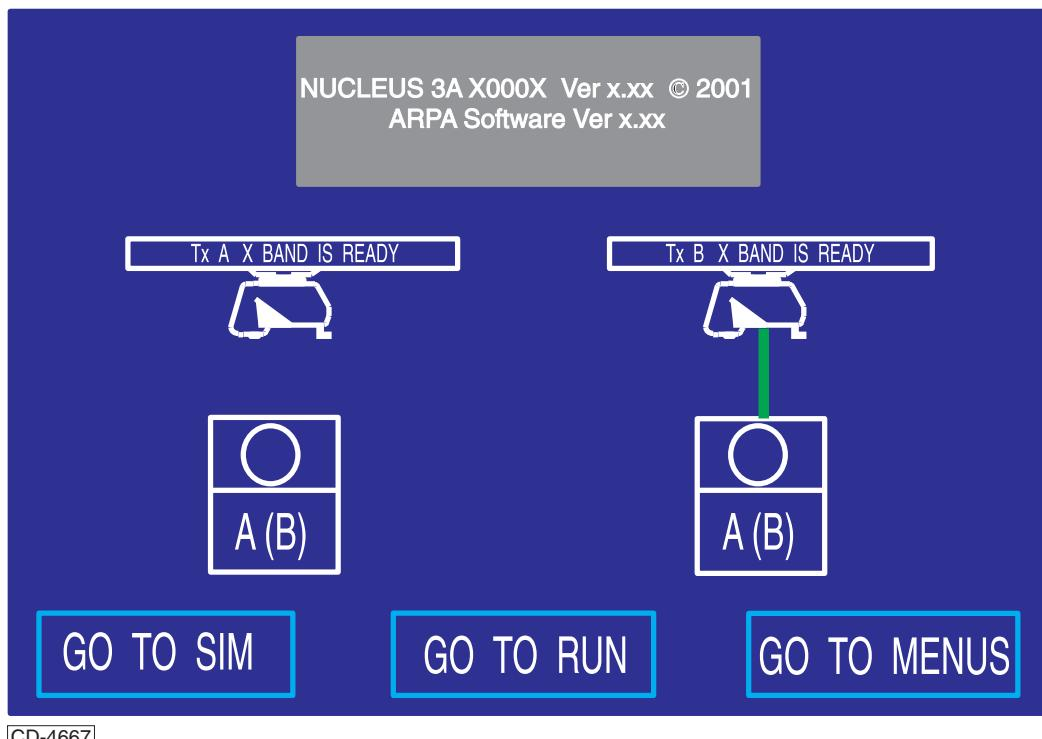

Figure 3b - STANDBY Screen - Mimic Diagram (Nucleus 5000 & 6000)
- (1) Ensure that the Interswitch Unit is selected to REMOTE, if not switch the Display(s) to STANDBY and then select REMOTE on the Display Control Selector on the Interswitch Unit.
- (2) The Display(s) show the mimic diagram on the Standby screen, as shown in Figure 3b below.
- (3) To change the Transmitter selection position the cursor, using the trackerball, in the TX A(B) X(S) BAND IS READY box as required.
- (4) The pop-down boxes display the following: